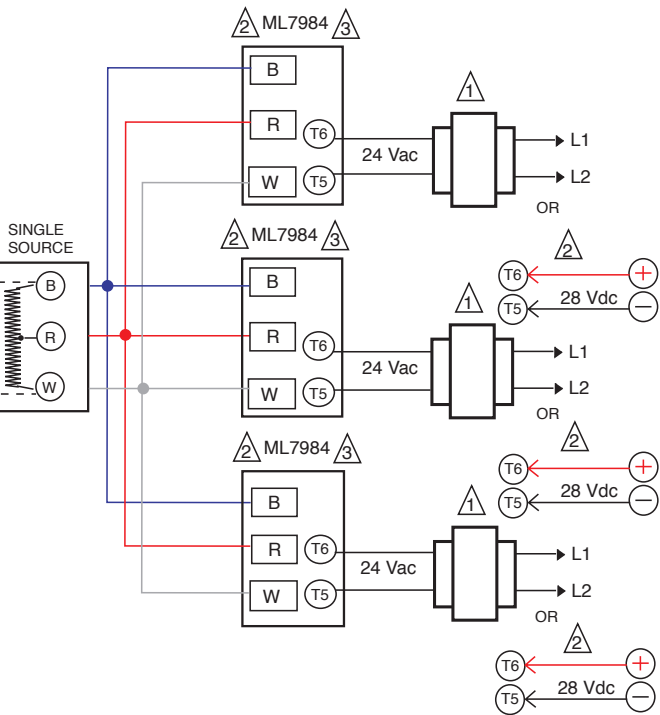

FIG. 10B — ML7984 WITH INDIVIDUAL TRANSFORMERS, COMMON CONTROLLER
- For Figure 10B Only:** Use Resistor Kit part #272822.